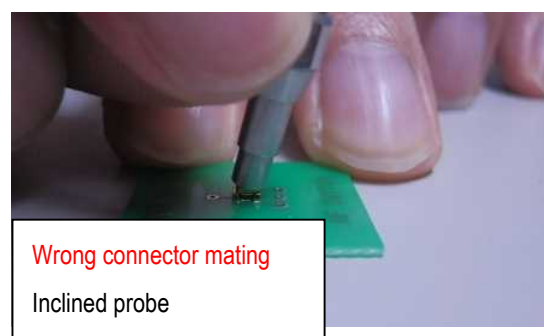

Fig. 14
• Please make sure to set the probe vertically to the board. Mating tilted probe as shown in Fig. 14, will damages the connectors.